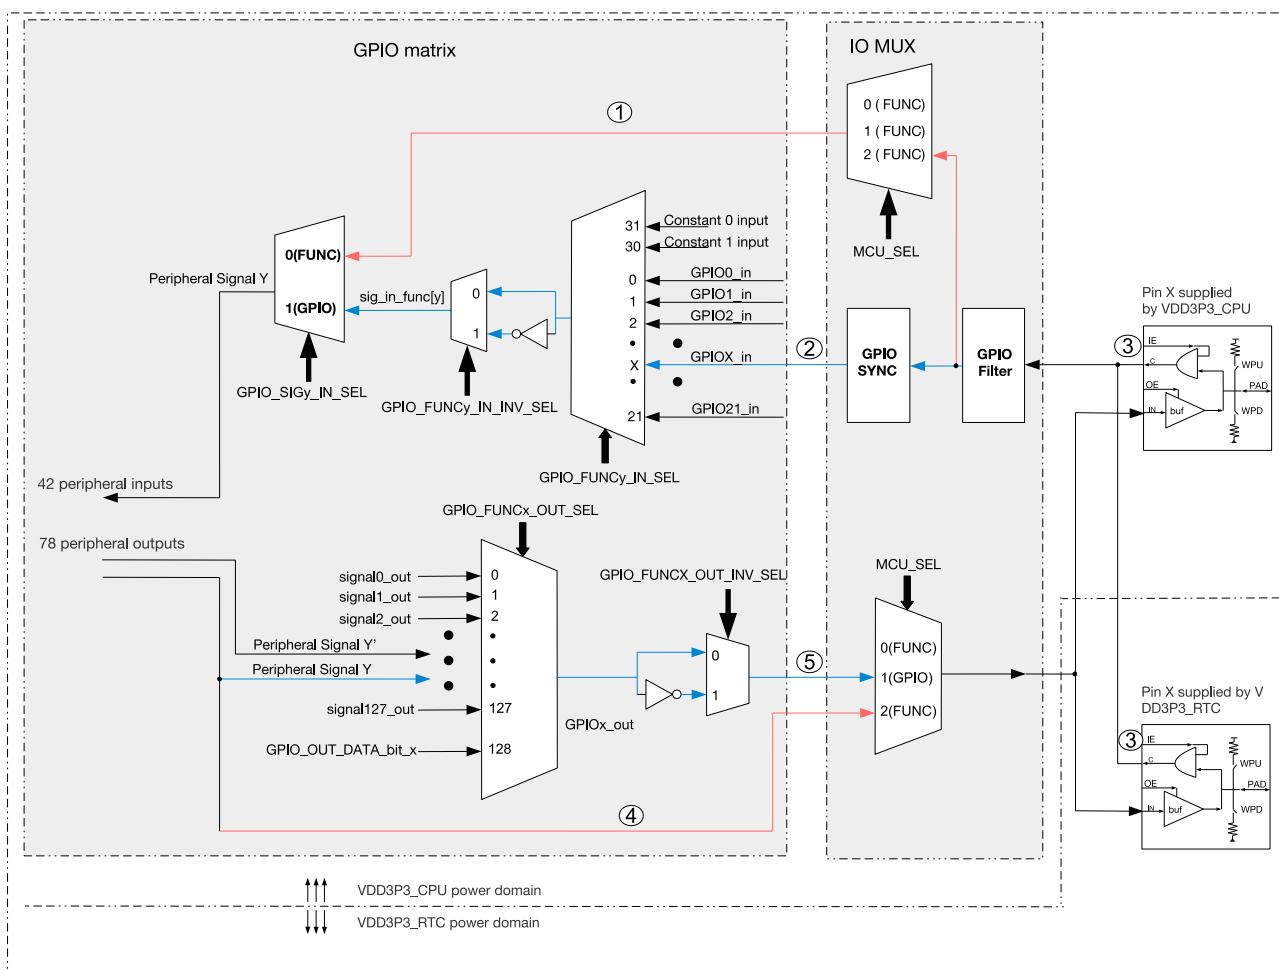

Figure 5-2. Architecture of IO MUX and GPIO Matrix
- Figure 5-2 shows in details how IO MUX and GPIO matrix route signals from pins to peripherals, and from peripherals to pins.
When signals are directed from pins using GPIO matrix, the signals will be synchronized to the APB bus clock by GPIO SYNC hardware, then go to GPIO matrix. This synchronization applies to all GPIO matrix signals but does not apply when using the IO MUX, see Figure 5-2.
Some of the 78 output signals (signals with a name assigned in the column "Output signal" in Table 5-2) can be set to go through GPIO matrix into IO MUX and then to a pin. Figure 5-2 illustrates the configuration.